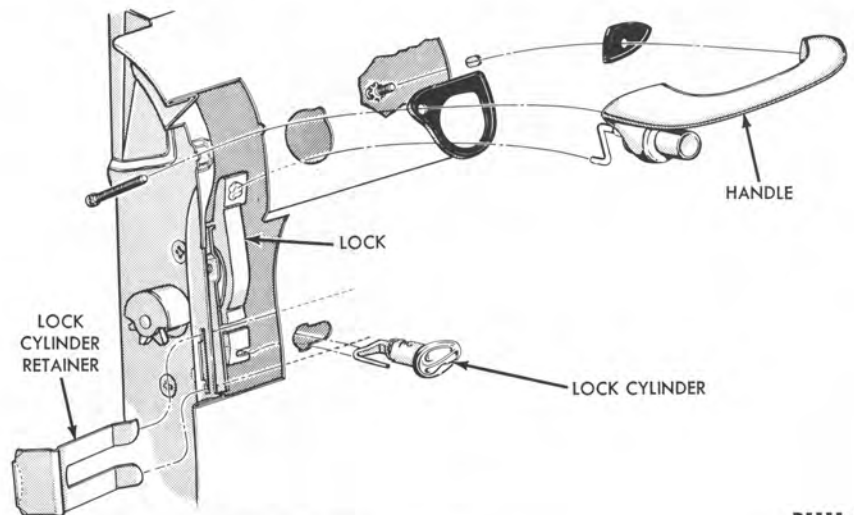

FIG. 9—Outside Door Handle and Lock
1. On a front door, carefully pull aside the weatherstrip, remove the lock cylinder retaining clip (Fig. 9), and withdraw the cylinder. The key-hole cover and its spring are serviceable.
2. Remove the handle retaining screws (Fig. 9), and remove the handle.